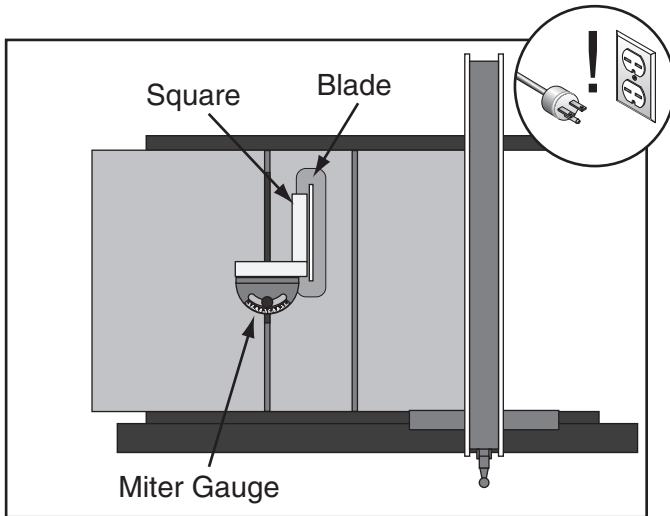

Figure 130. Checking 90° stop on miter gauge.
5. Place square evenly against face of miter gauge and blade, as shown in **Figure 130**.